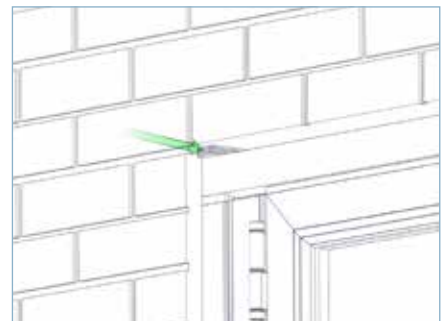

FIG 4C
- ▶ 4.7. Install the outer frame and insert frame packers above the top track at each end, compressing tracks, jambs and cill (if fitted), together closing all unwanted gaps and temporarily holding the frame in position as shown in FIG 4C.